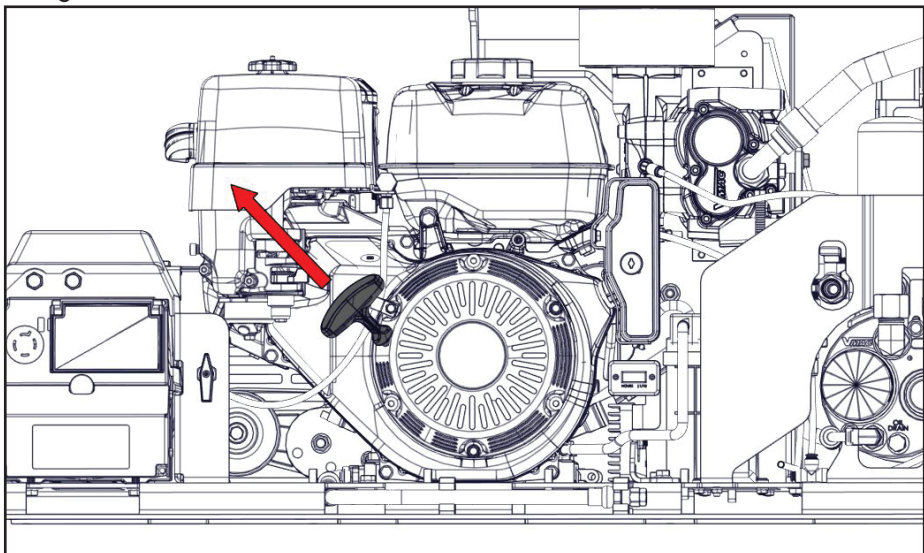

Figure 21 — Pull cord
7) Pull the starter grip lightly until resistance is felt, then pull briskly in the direction of the arrow. Return the starter grip gently to prevent damage to the starter (Figure 21).